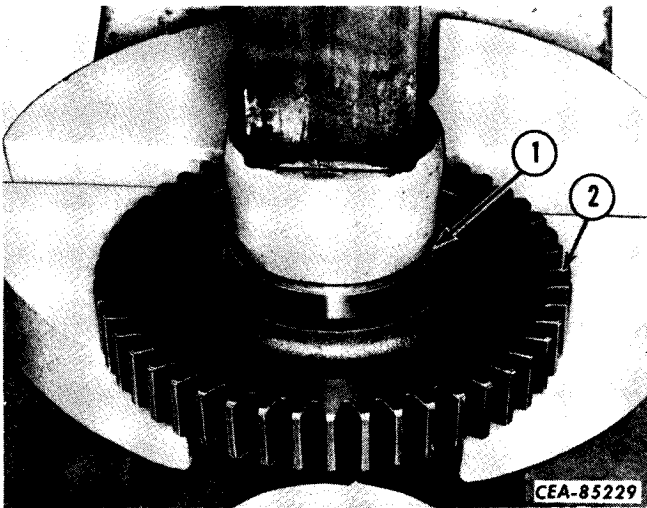

Figure 3-28
Press the driven gear bearing assembly (1, Fig. 3-28) into the driven gear (2). Be sure press pressure is exerted on bearing outer race.